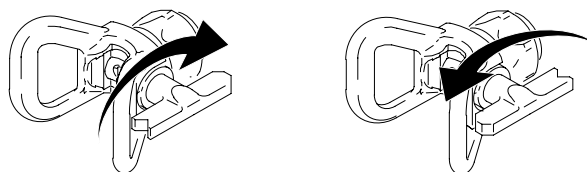

Fig. 4
2. Rotate arrow-shaped handle (Fig. 4) to UNCLOG position.
4. Put in-line valve trigger safety lever in SAFETY ON position (Fig. 1), and rotate arrow-shaped handle (Fig. 4) to SPRAY position.